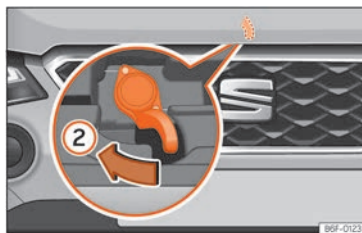

Fig. 191 Lever under the bonnet.
- To lift the bonnet, press towards the left on the lever located under the bonnet, in the centre »» Fig. 191 ②. The arrester hooks are released.